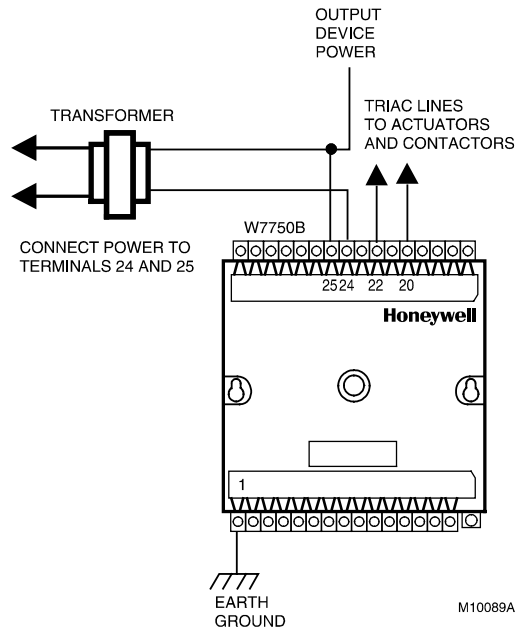
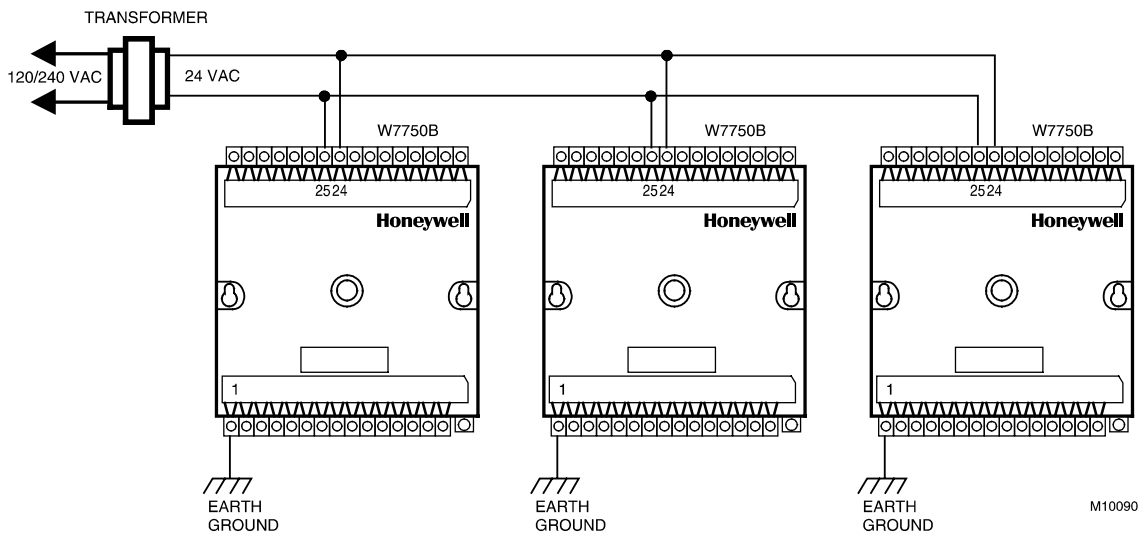

Fig. 4. Power wiring details for one Excel 10 per transformer.
Fig. 5. Power wiring details for two or more Excel 10s per transformer.
- For multiple controllers operating from a single transformer, the same side of the transformer secondary must be connected to the same power input terminal in each controller. The ground terminal (1 on the W7750A,B) must be connected to a verified earth ground for each controller in the group, see Fig. 5. (Controller configurations are not necessarily limited to three devices, but the total power draw including accessories cannot exceed 100 VA when powered by the same transformer (US only). See System Engineering form 74-2958 for power wiring recommendations.)
The 24 Vac power from an energy limited Class II Power Source must be provided to each W7750A,B Controller. To conform to Class II restrictions (US only), transformers must not be larger than 100 VA. More than one W7750A,B Controller can be powered by a single transformer. Fig. 4 shows power wiring details for a single controller and Fig. 5 depicts multiple controllers using one transformer.
- 24 Vac power connections. Verify that multiple controllers being powered by the same transformer are wired with the transformer secondary connected to the same input terminal numbers on each W7750. See Fig. 5. (Controller configurations are not necessarily limited to three devices, but the total power draw, including accessories, cannot exceed 100 VA when powered by the same transformer (US only). See System Engineering form 74-2958 for power wiring recommendations.)
- Controller wiring. Be sure that each controller is wired (terminal 1) to a verified earth ground using a wire run as short as possible with the heaviest gauge wire available, up to 14 AWG (2.0 mm²) with a minimum of 18 AWG (1.0 mm²) for each controller in the group. See Fig. 4.